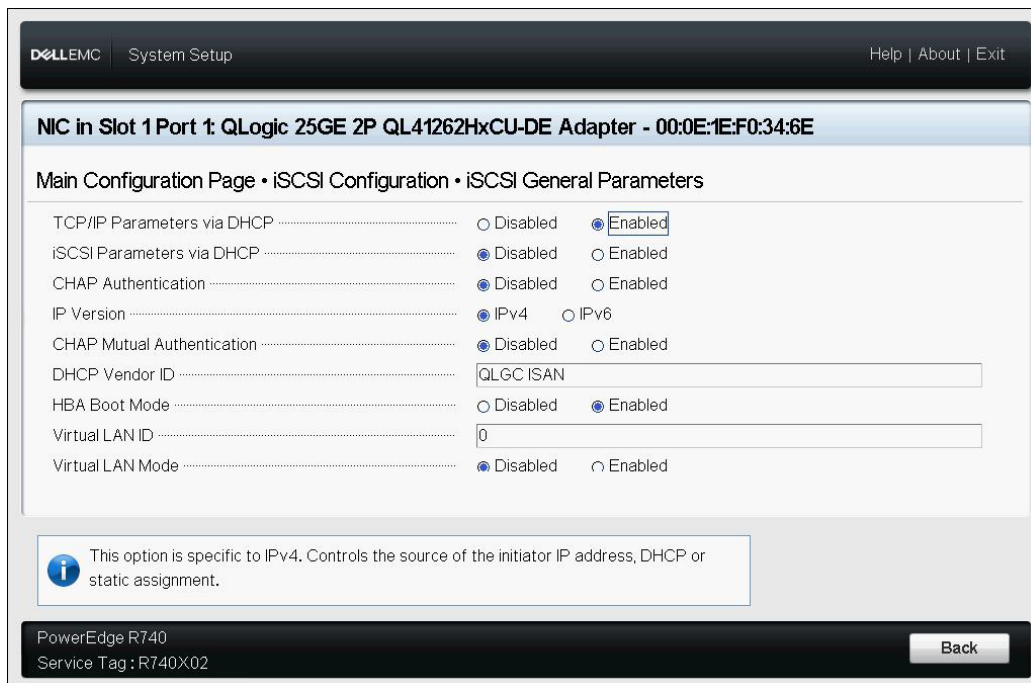

Figure 6-7. System Setup: iSCSI General Parameters
3. On the iSCSI General Parameters page (Figure 6-7), press the DOWN ARROW key to select a parameter, and then press the ENTER key to input the following values (Table 6-2 on page 88 provides descriptions of these parameters):
- The label will change to **IPv6** or **IPv4** (default) based on the IP version set on the iSCSI General Parameters page (Figure 6-7 on page 87).